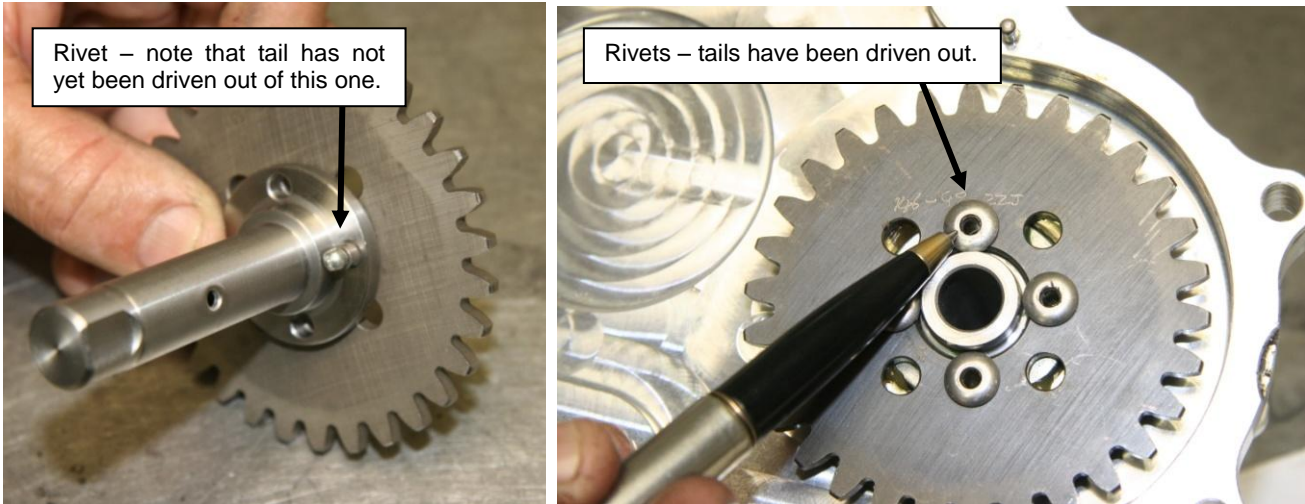

Figure 149 – Assembling Distributor Gear to shaft
- If the distributor shaft has been replaced it will be necessary to rivet the drive gear to the new shaft as shown in Figure 149. 3/16" stainless steel (Monel) blind rivets must be used. Ensure that the heads of the rivet do not get caught on the edge of the shaft and that the tails are not so long that they project past the shoulder of the shaft. Also ensure that the remainder of the rivet tails are driven out of the rivet – otherwise they can work loose in service and damage the engine.